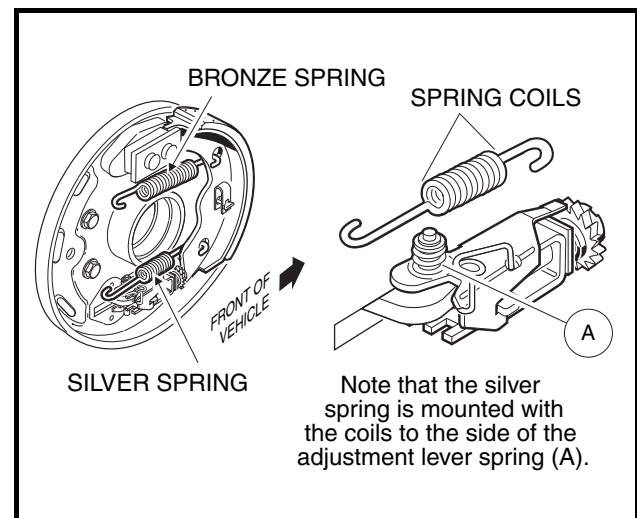

**Figure 6-12 Trailing Shoe**
1. Turn the adjusting wheel screw so the shoe slot is vertical, then position the trailing shoe in the slots in the shoe mounting block and adjuster assembly (**Figure 6-12, Page 6-6**). See following NOTE.
**NOTE:** The trailing shoe has 17T stamped into the tip of the shoe flange (**Figure 6-12, Page 6-6**). The leading shoe is stamped 17L. When installing the shoes, the stampings on both shoes should be oriented to the top of the brake assembly. When installing the shoes on the passenger side of the vehicle, the side of the trailing shoe flange marked 17T should be facing out and be visible. On the driver side, the 17L on the leading shoe should be facing out and be visible.